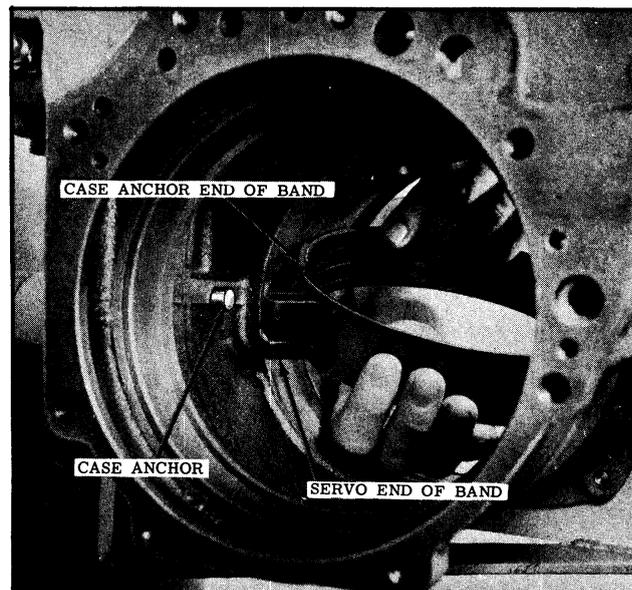

Fig. 3-87 Installing Low Band
1. Slide band into front of the case with band ends to rear of the case. (See Fig. 3-87)